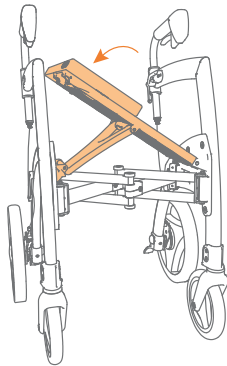

Figure 11: Push the seat down till you hear a 'click'.
- b. Push the seat down until it clicks into place. Important: the seat is not secured until you have clearly heard it 'click' (**Figure 11**).